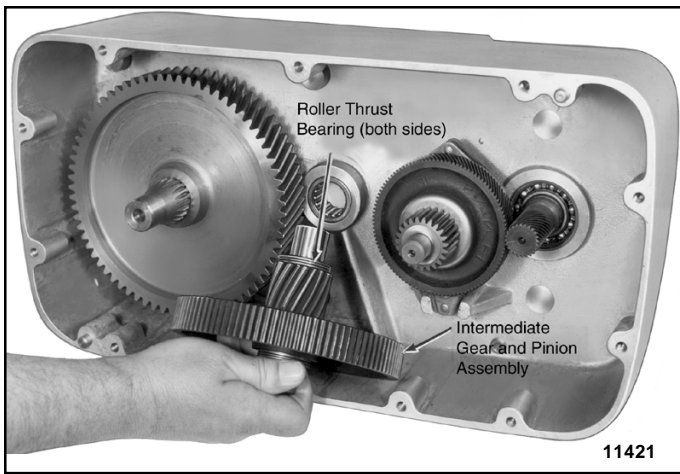
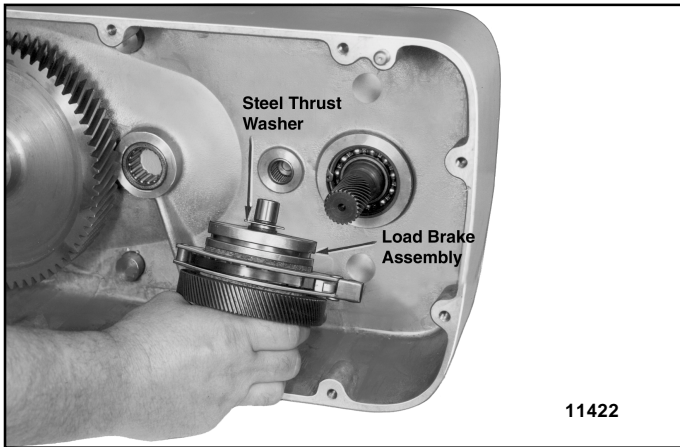

Figure 5-4. Removing Intermediate Gear and Pinion Assembly
Figure 5-5. Removed Load Brake Assembly
- To inspect gearing, pull out intermediate gear and pinion assembly and roller thrust bearings (Figure 5-4), and load brake assembly (Figure 5-5). Do not remove drum gear unless visual inspection indicates replacement is necessary.
h. Install gearing and load brake assembly in gearcase in reverse order of disassembly. Be certain roller thrust bearings are installed at both ends of intermediate gear shaft as shown in Figure 5-4 and that thrust washers are properly installed at both ends of load brake shaft as noted below:
- (1) A steel thrust washer with 5/8" I.D. must be installed on the brake flange end (end opposite pinion) of load brake as shown in Figure 5-5.
- (2) A bronze thrust washer with a lug on one side goes on pinion end of load brake shaft and it must be installed so that its lug engages the special slot located on the spot face surrounding the load brake bearing bore inside gearcase cover. Use heavy grease to hold it in place on cover as cover is installed.